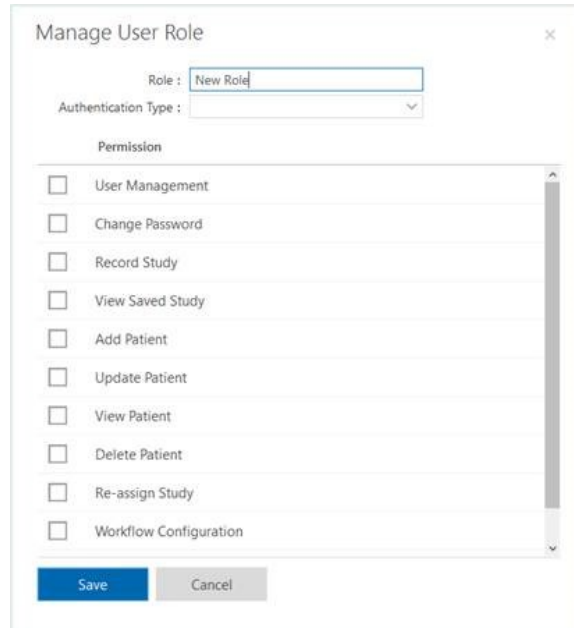

Figure 32: Adding New User Role
3. Create a new role by entering a new title in the **Role** category and selecting an **Authentication Type** from the dropdown menu (Figure 32). Select all the functions desired for access by the new user role, and press **Save**.